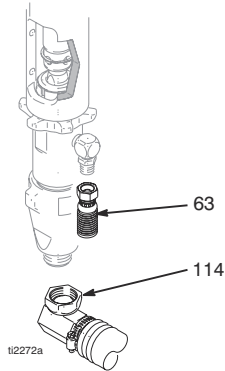

FIG. 7
- 3 (Fig. 7) Remove suction tube (114) and paint hose (63) (remove at swivel end).